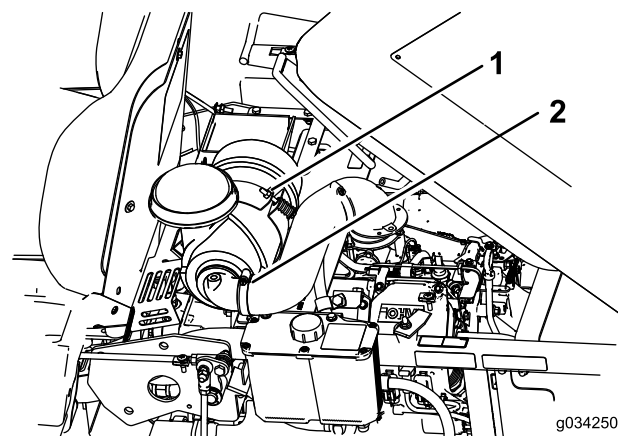

Figure 29
- Loosen the bolt holding the air cleaner (Figure 29).
- Loosen the clamp holding the hose and remove the air cleaner (Figure 29).